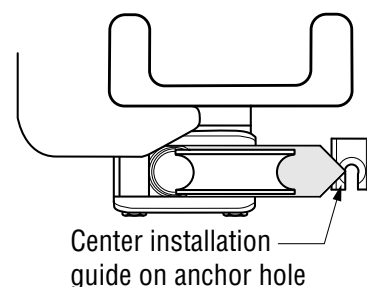

Figure 1-6 Installation guide placement
2. Insert the installation guide into the sheave bracket, see Figure 1-6.